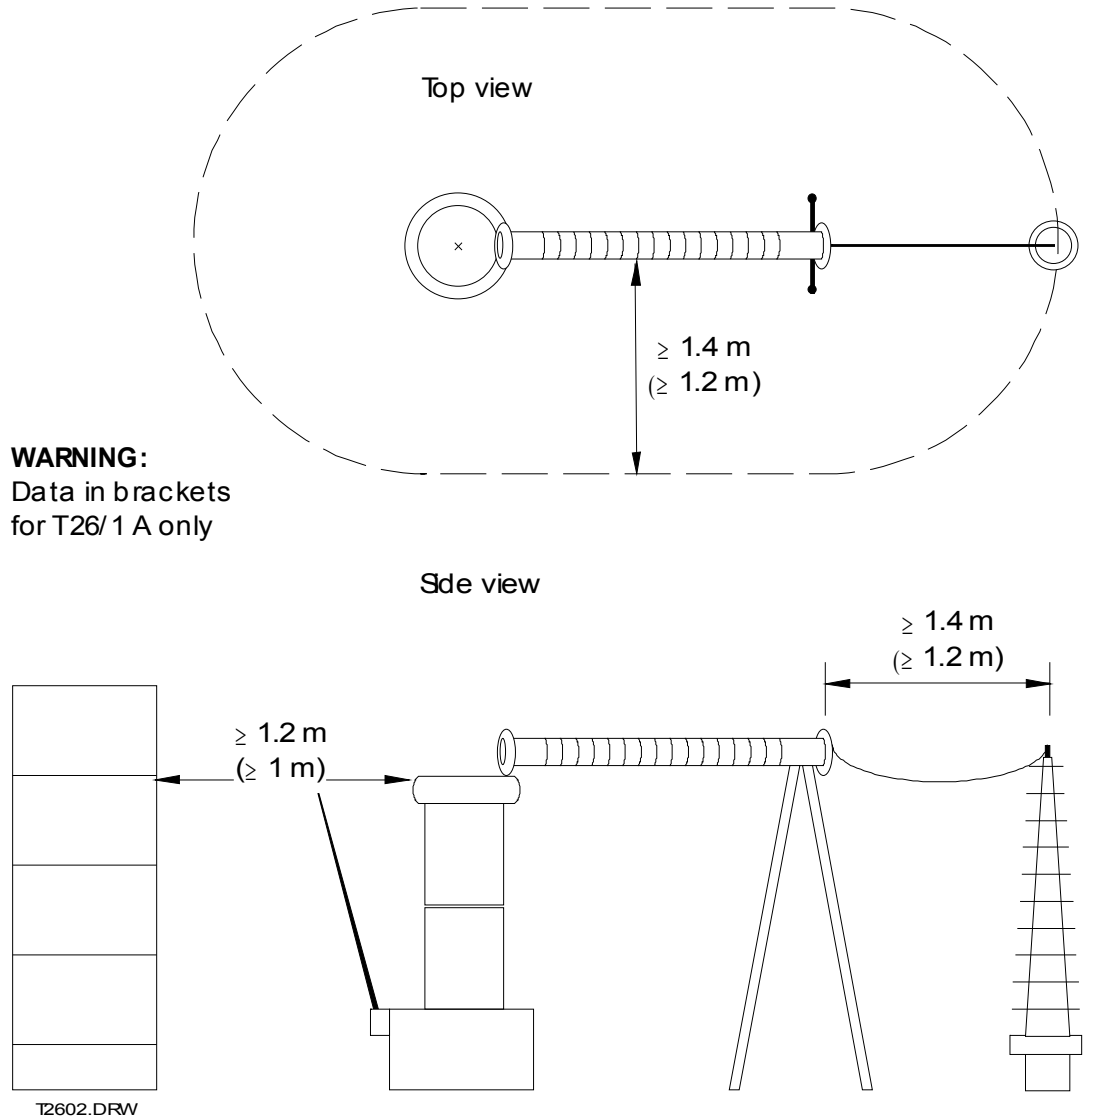
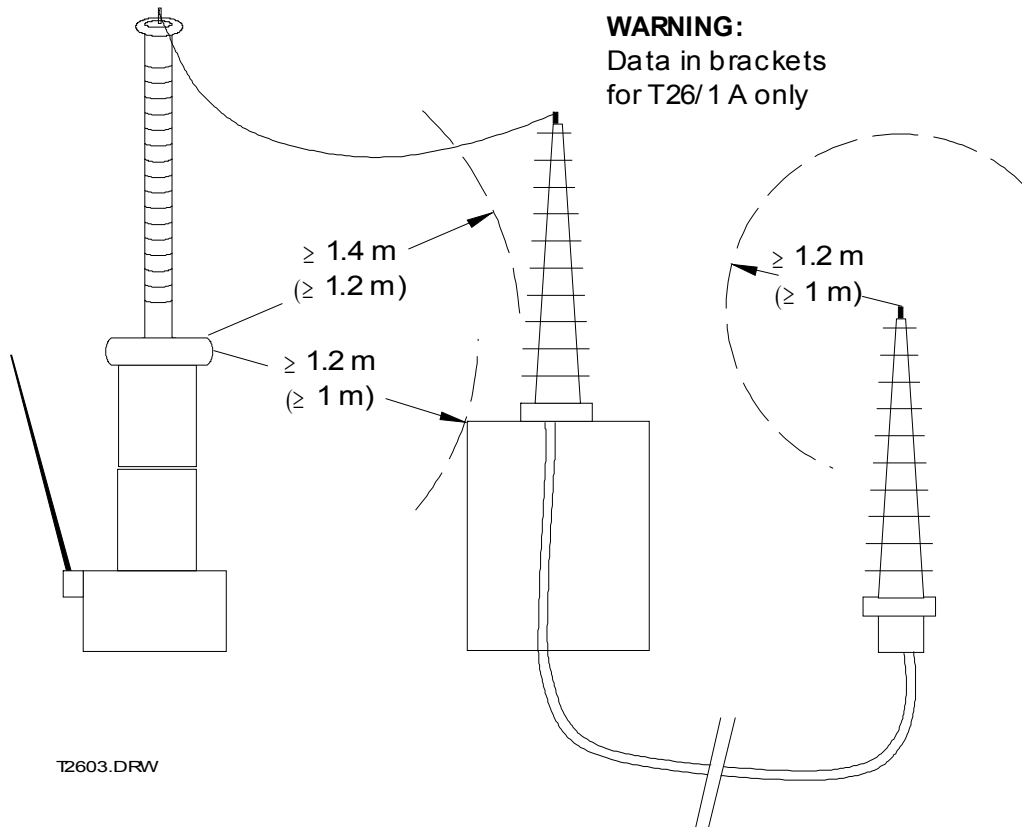

Fig. 7 Horizontal liquid resistor set-up
Fig. 8 Vertical liquid resistor set-up
When setting up the equipment, care must be taken that there is a gap of at least 1.2 m (1 m) between the live parts. In the case of liquid resistors as shown in fig. 7 and fig. 8, the gap must not be less than 1.4 m (1.2 m).
N.B.: The liquid resistor itself is longer than the minimum distance. The distances quoted are therefore only of importance if the equipment has to be set up in such a way that the HV head moves correspondingly closer to the sealing end (see fig. 7).